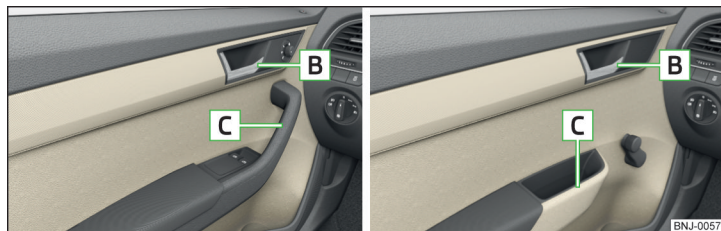

Fig. 34 Door opening lever - Variant 1 / Variant 2
- To **open from the inside** pull the door opening lever **B** » Fig. 34 and push the door away from you.